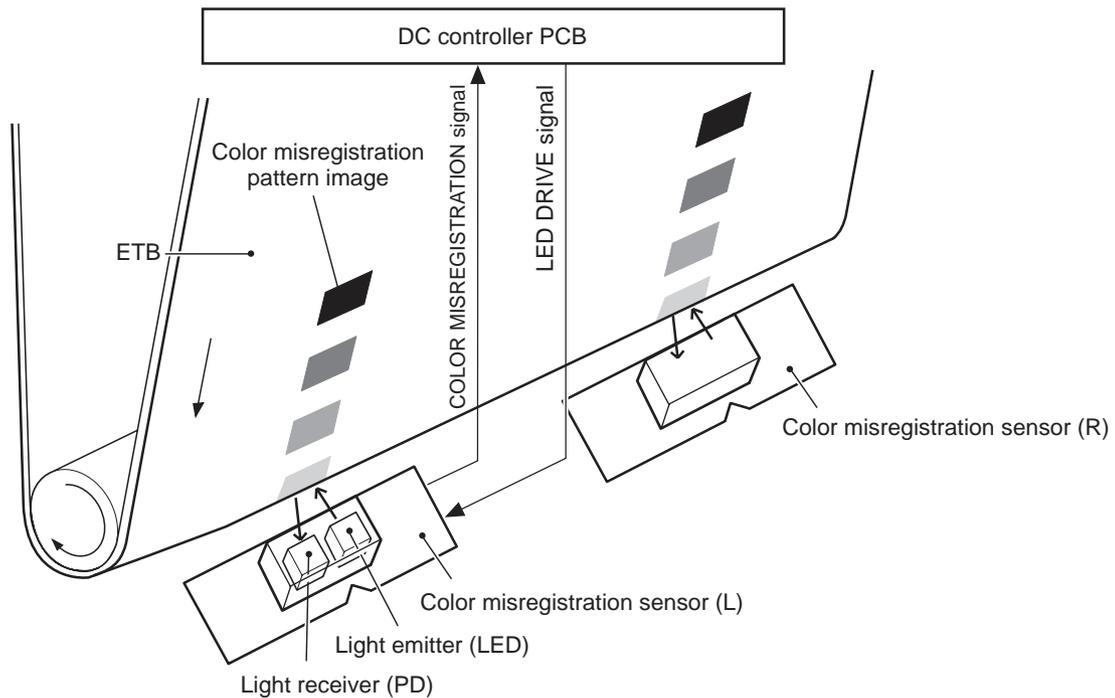

Figure 5-33 Image density detection
Each of the image stabilization controls uses the color registration unit at the top of the ETB to measure image density. The image density detection is performed by the DC controller, which controls the color misregistration unit during the D-half control. The color misregistration unit is placed under the ETB and consists of two detection sensors, each having one light emitter (LED) and one light receiver (PD). Figure 5-33 Image density detection on page 197 illustrates this process.